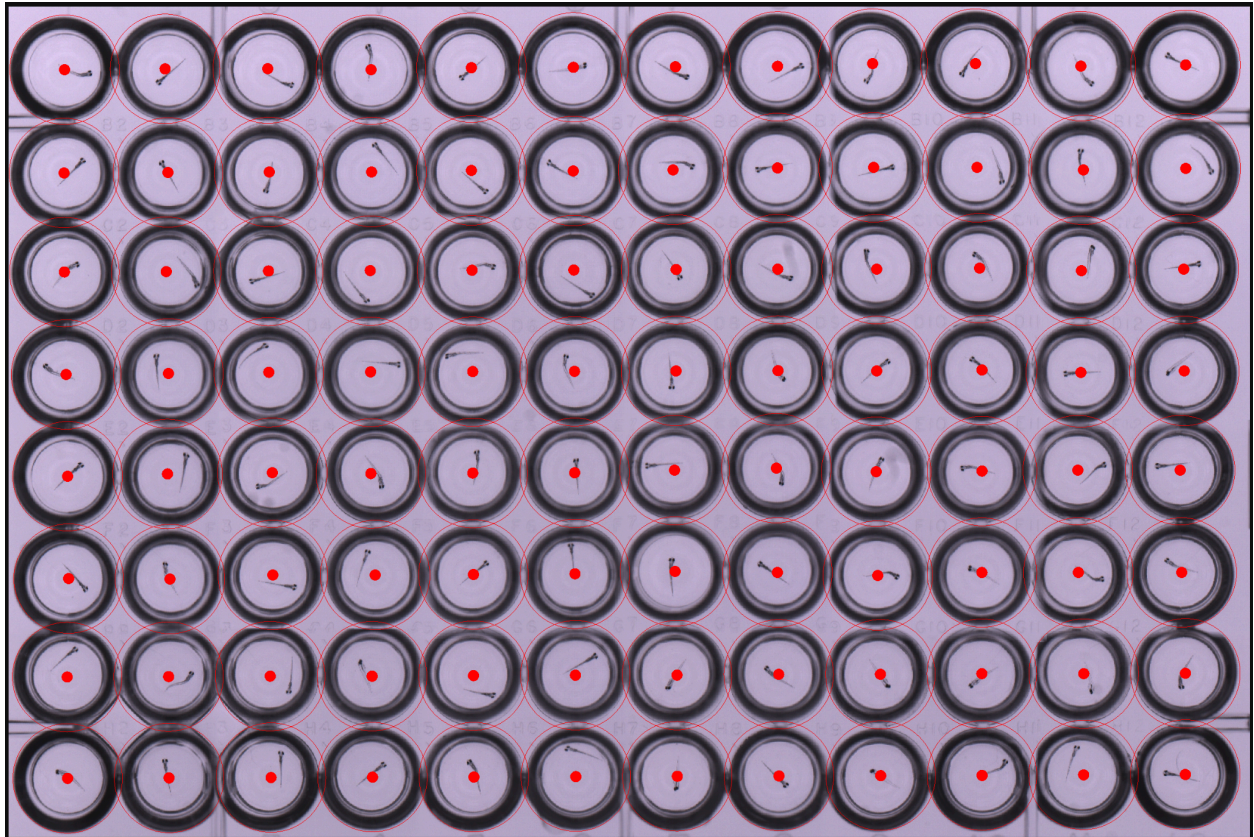

Fig 34: Fully aligned Well Alignment.
- 7) Ensure that well indicator circles and center points are correctly aligned with each well (Fig 34). Individual adjustments can be made if necessary by again double clicking on the center point of each red circle, and dragging to the correct location.